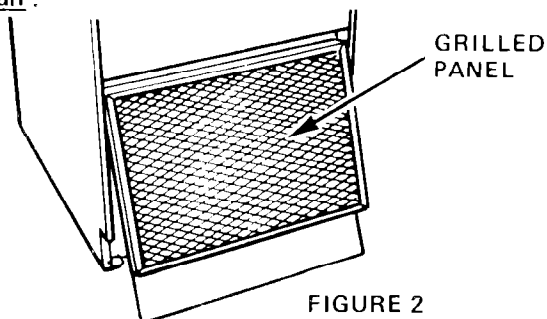

FIGURE 2
4. Remove front grille (Figure 2).